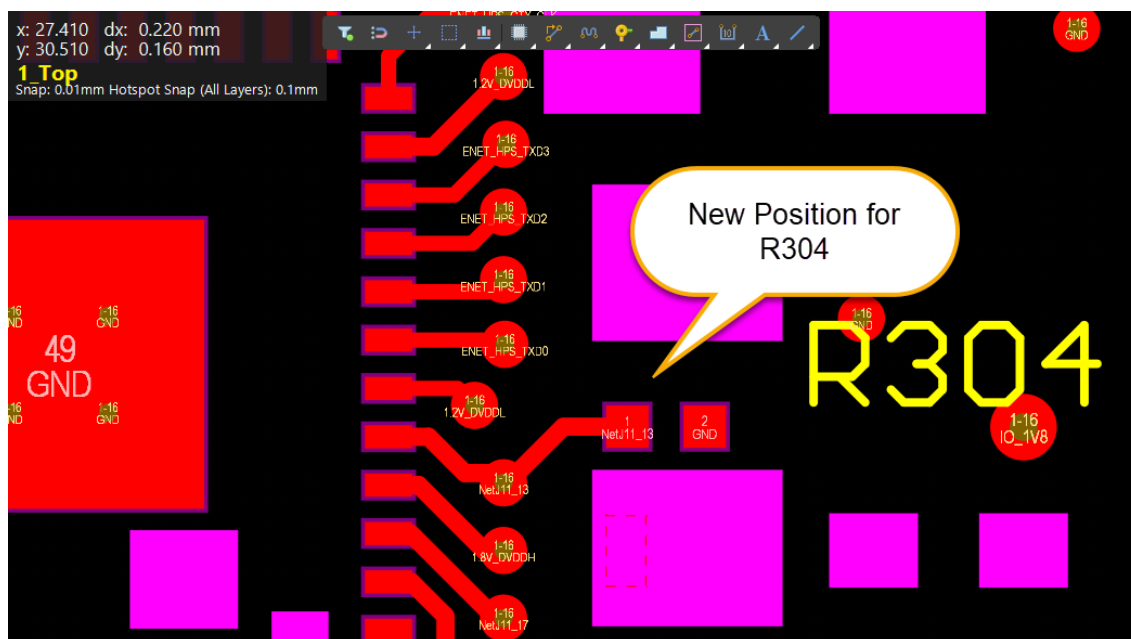

Figure 7. New Position for R304
16. Reposition R304 and move it close to U11, as seen in Figure 7. Reroute the trace as needed.